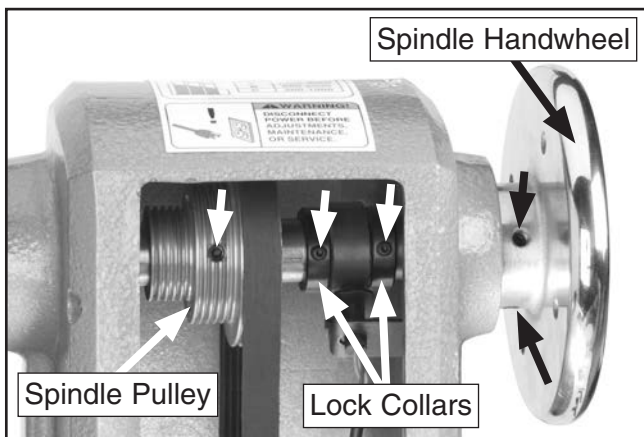

Figure 51 Set screw locations.
3. Loosen both set screws on the spindle handwheel (**Figure 51**), and turn it clockwise to unthread and remove it.
4. Loosen the set screw on the spindle pulley and both lock collars (refer to **Figure 51** for set screw locations).